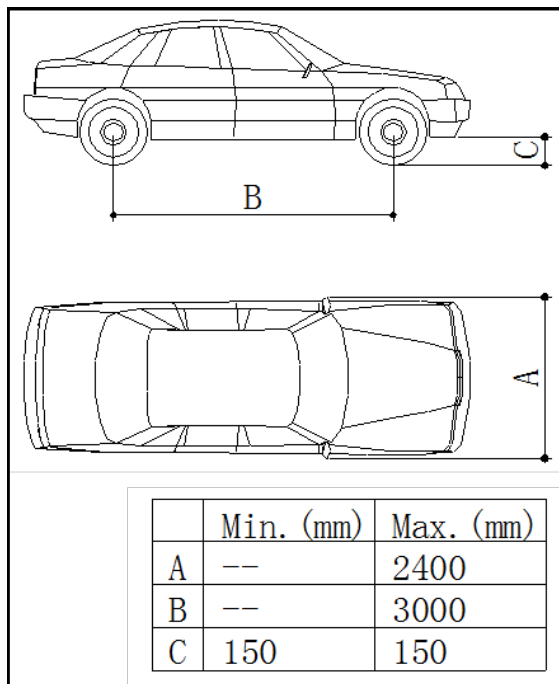

Fig. 8
During lift and descent movements, the operator must remain in the command station as defined in figure 8. The presence of persons inside the danger zone indicated in the same figure is strictly prohibited. The presence of persons beneath the vehicle during operations is permitted only when the vehicle is parked in the elevated position.
- ◆ Only authorized vehicle **(Fig. 8)** are raised without exceeding the rate capacity and overall dimensions.